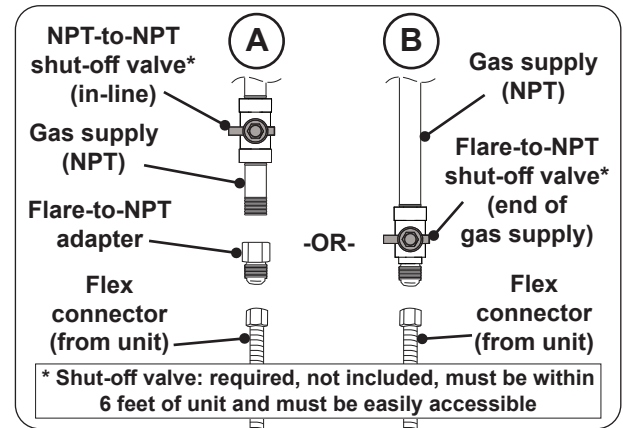

Fig. 27-1 Connecting to a gas line
- Install the supplied flare-to-NPT adapter to the gas supply (NPT) using a pipe joint compound resistant to all gasses (see Fig. 27-1, A). Tighten securely.
- Connect the flex connector to the adapter (see Fig. 27-1, A). Tighten securely.
- Connect the flex connector to the shut-off valve (flare) (see Fig. 27-1, B). Tighten securely.